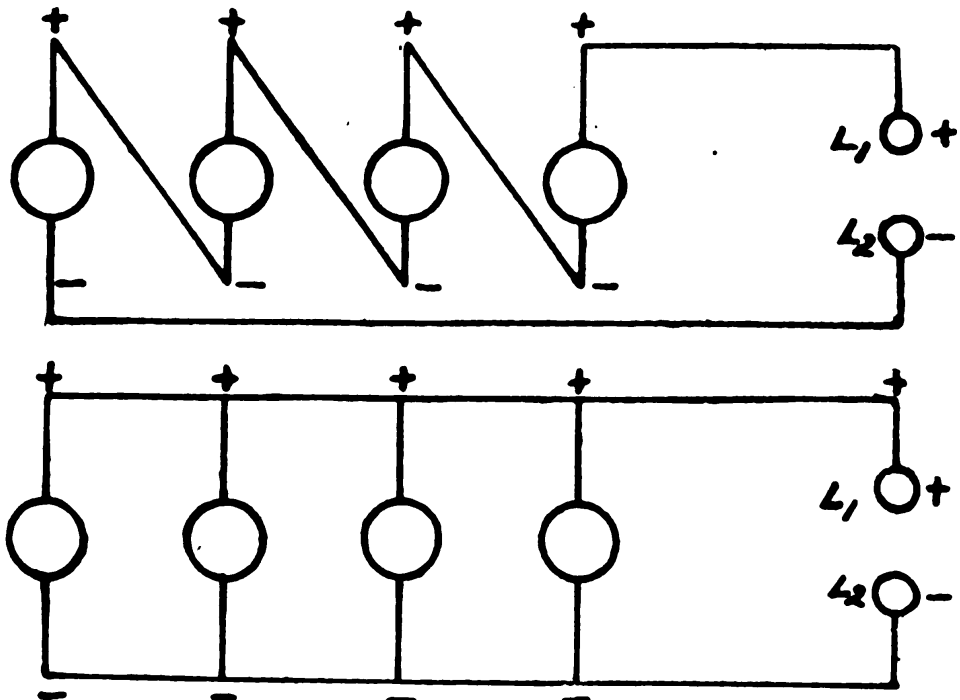

FIGURE 152.—Upper: Batteries connected in series. Lower: Batteries connected in parallel or multiple.
Q. What is meant by the expression "in series"? Show how to connect a battery in series. *A.* See fig. 152, upper. The cells of a battery are said to be in series when the positive terminal of each cell is connected to the negative terminal of the next cell. The cells are thus in tandem, the entire current generated by all of them passing through each cell.
Q. Assume that each of the cells in figure 152, upper, is a dry cell with a voltage of $1\frac{1}{2}$ volts. What is the voltage of the combination? *A.* The electromotive force or voltage of the combination of cells will be 6 volt $(4 \times 1\frac{1}{2})$.
Q. What is meant by the expression "in parallel" or "in multiple"? Show how to connect four batteries in parallel. *A.* See figure 152,
Q. Assume that each of the cells in figure 152, lower, is a dry cell with a voltage of $1\frac{1}{2}$ volts. What is the voltage of the combination? A. The electromotive force or voltage of the combination of cells will be $1\frac{1}{2}$ volts.
(1) Refill the battery with distilled water so that the plates are always covered with electrolyte.
(2) Never allow the battery to discharge fully.
(3) Do not add sulfuric acid to the battery.
(4) Keep battery always in an upright position.
(5) Never leave a battery connected when current is not required.